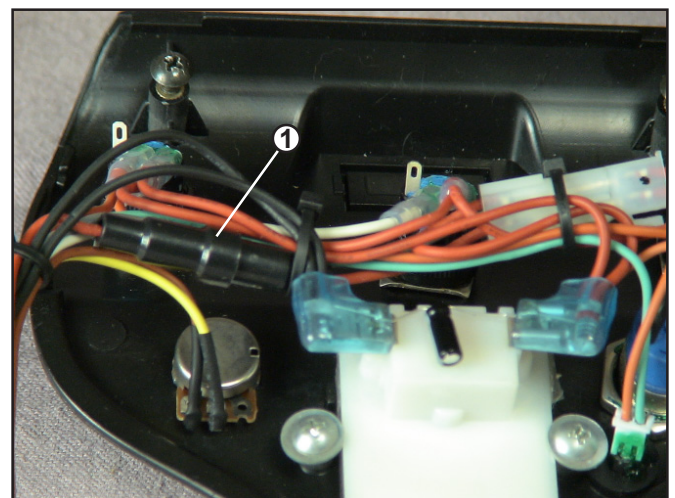

Figure 26. Control Panel Fuse
2. Remove the eight (8) screws that fasten the back shroud to the tiller.
3. Open the fuse holder. (**See #1 on figure 26.**)